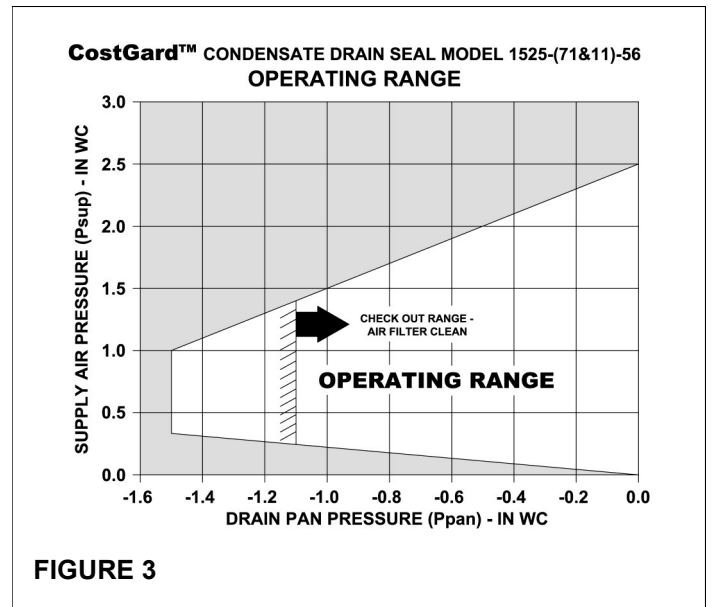
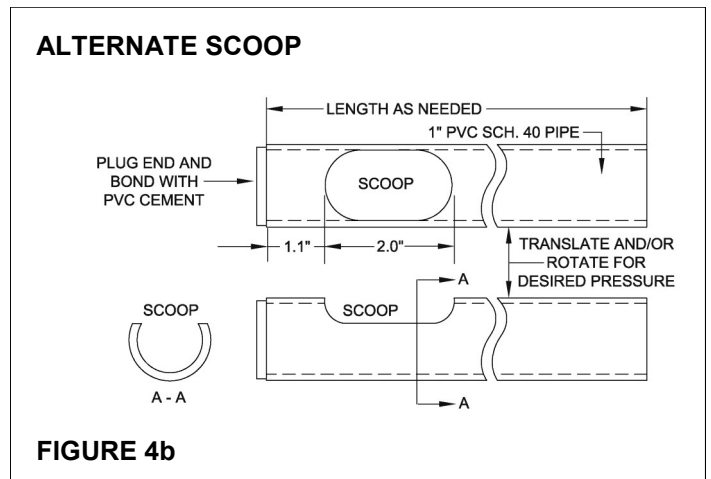

FIGURE 3
FIGURE 4b
4. The CostGard™ Condensate Drain Seal models 1525-71-56 and 1525-11-56 can operate over a wide range of pressure conditions in the drain pan compartment and the supply air plenum (refer to Figure 3). However, in rare cases where the static pressure in the supply air plenum falls below the lower limit shown in Figure 3, it is still possible to use the CostGard™ Condensate Drain Seal. In such cases, you can obtain the required pressure level by installing a ram air scoop (a 90-degree elbow) on the air supply pipe and inserting it into the blower air stream until the desired pressure level is reached (refer to Figure 4a). Alternatively, you can use a unique scoop constructed as shown in Figure 4b.
5. For a few HVAC units where the blower static pressure rise exceeds the upper limit shown in Figure 3, it may still be possible to use the CostGard™ Condensate Drain Seal. In such cases, please contact Trent Technologies for a resolution.
If these pressure values fall within the "checkout range - air filter clean," defined in Figure 3, the system will operate properly. And it will operate properly when the filter is dirty and ready to be changed (.50" wc. pressure loss). During operation, a small quantity of air will be exhausted through the vent installed in the drain line pipe. If the measured pressures are not within the defined operating range, it may still be possible to use the CostGard™ Condensate Drain Seal models 1525-71-56 and 1525-11-56. For resolution, contact Trent Technologies.